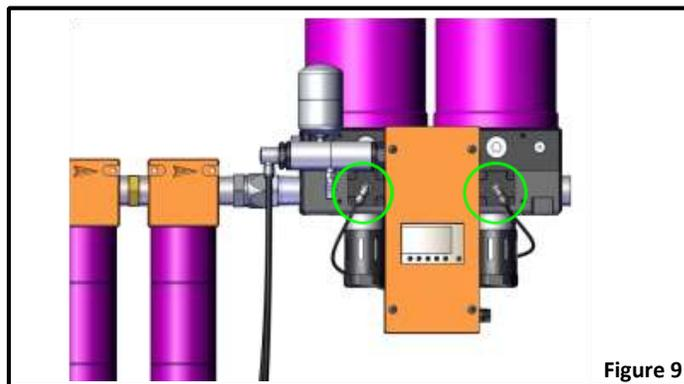

Figure 9
2. Disconnect tubing from quick-connect fitting located on piston cover. Push in on orange ring. While holding ring in, pull out tubing. *Figure 9*